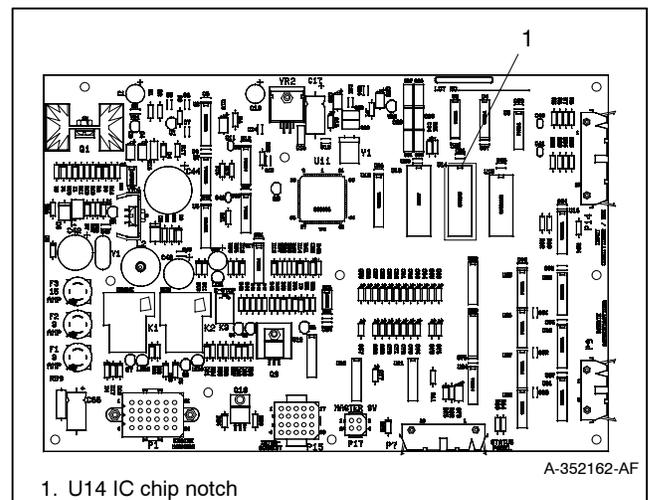

Figure 5 Main Logic Controller IC Chip
- 5.2 Locate IC chip U14 on the main logic circuit board. See Figure 5.